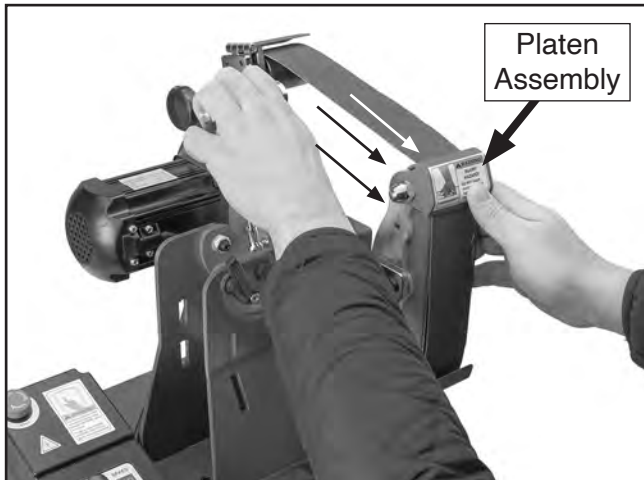

Figure 13. Pulling platen assembly forward.
- Without releasing belt tension handle, move platen assembly as far forward as you can without stretching belt (see **Figure 13**), and tighten platen lock handle.